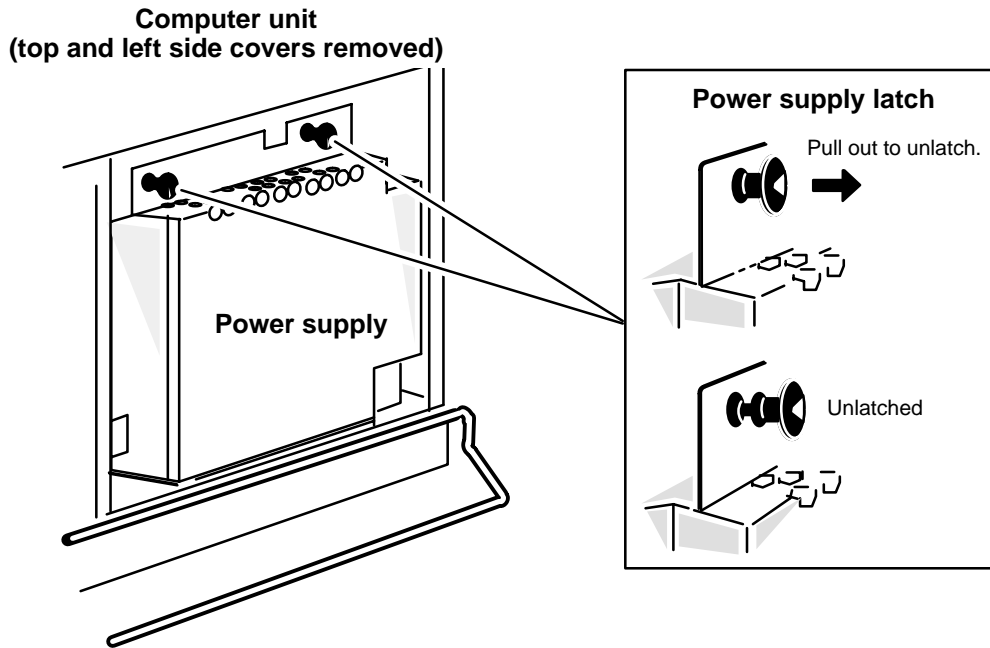

Figure 12-3 Releasing the Power Supply from the Computer Unit
3. Release the power supply from the computer unit by gently pulling out the power supply latches, as shown in Figure 12-3.